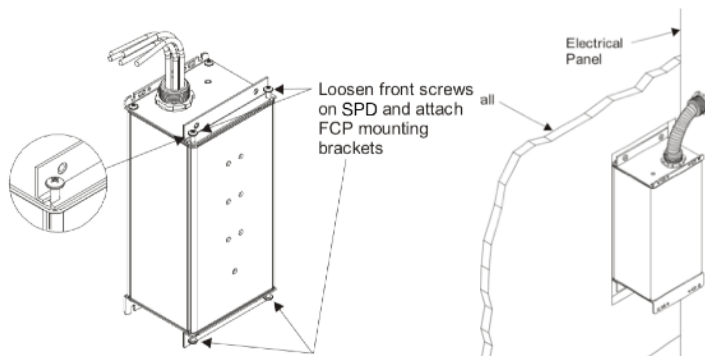

Figure 1
1. Loosen the front screws on the end plates as shown in Figure 1. Apply FCP Mounting Brackets and retighten screws.